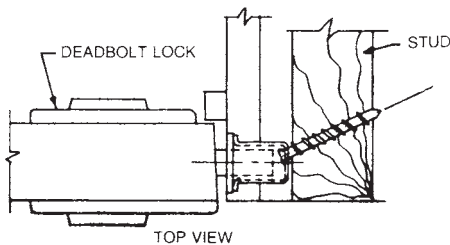
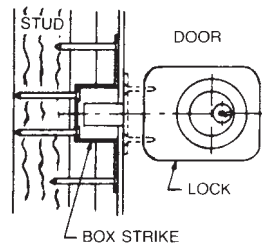

Figure 13.52 Ensure the screws go into the frame stud for maximum holding power. (M.A.G. Engineering and Mfg., Inc.)
Figure 13.53 Side view of the strike box. (M.A.G. Engineering and Mfg., Inc.)
9. Within the strike box, drill two $\frac{3}{8}$ -inch-diameter pilot holes on approximately a 25° angle toward the center of the jamb. This will provide for maximum holding power when the two screws are attached to the stud (Fig. 13.52). Figure 13.53 is a side view of the strike box positioning.